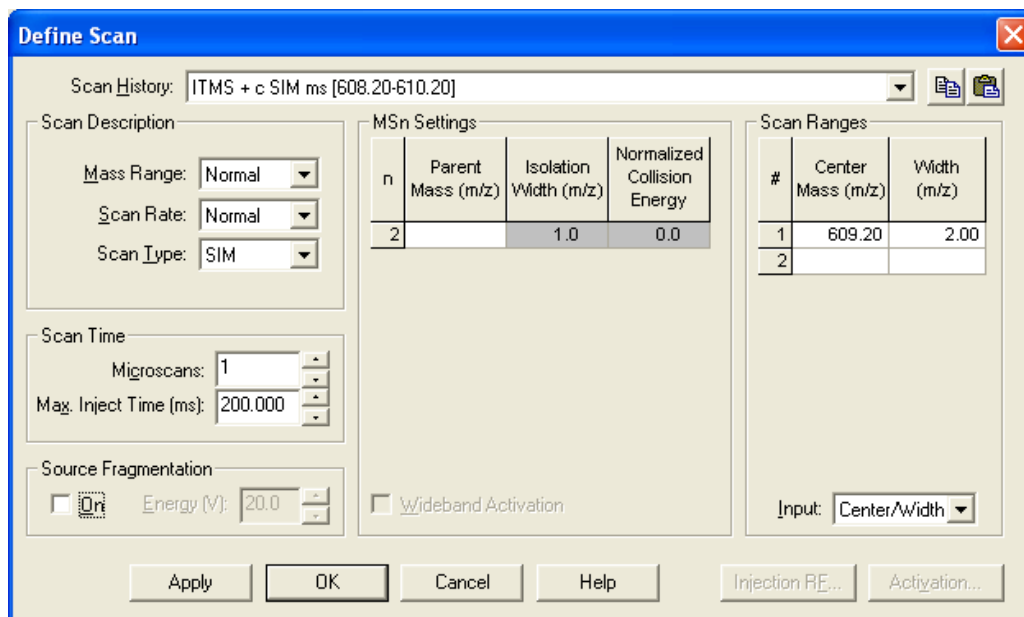

Figure 30. Define Scan dialog box, showing typical settings for APCI/APPI/MS operation
- a. On the Control/Scan Mode toolbar, click on the Define Scan button to open the Define Scan dialog box. See Figure 30. (If your dialog box appears different from the one shown in the figure, it is probably because the advanced settings are not displayed. You can turn on the advanced settings as follows: In Tune Plus, choose **ScanMode**, and then click **Advanced Scan Features** to select the option.)
- k. Ensure that the settings in your Define Scan dialog box are the same as those shown in Figure 30.